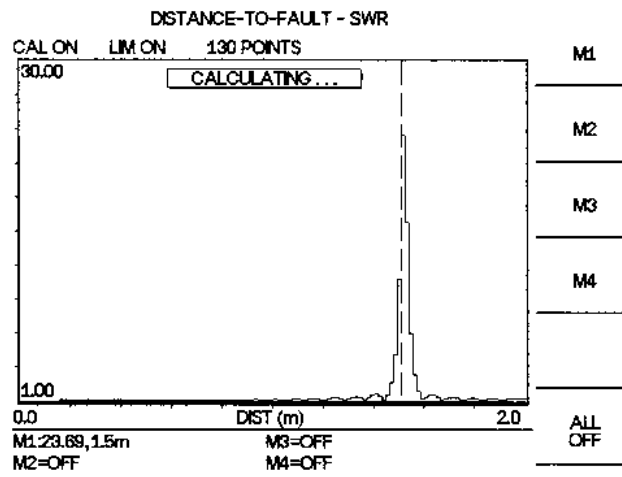

Figure 4-8. DTF - SWR Measurement Results (cable length)
**Step 23.** Press the **BACK** soft key or the **ESCAPE** key to return to the previous menu. Figures 4-8 and 4-9 show cable length displays in SWR and Return Loss modes.